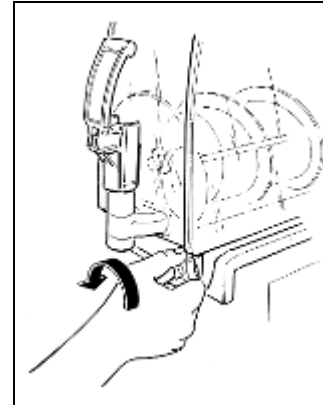

Fig. 1
The machine has to be placed on a sturdy, horizontal surface making sure it is well ventilated by leaving a gap of 20 cm around it and do not install it near heat sources (fig.1); we recommend you to maintain a room temperature between 24 and 38°C (between 75°F and 100°F).
- Unscrew and slip off the knobs (fig.1) then lower the bowl to eliminate any product residue through the dispensing tap.